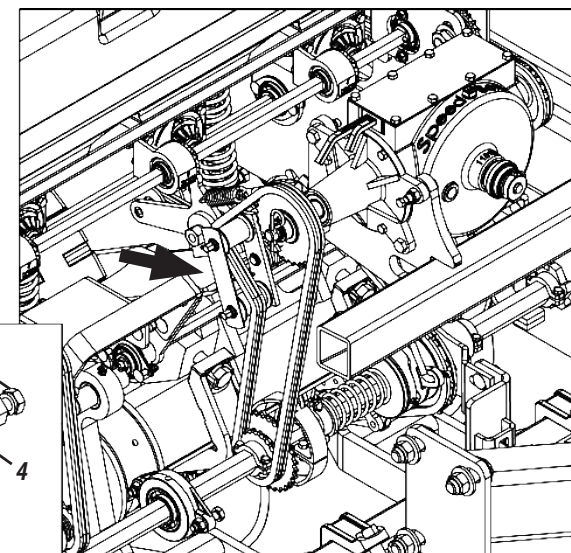

Figure 64
OSCILLATING STRETCHER (FIGURE 64)
The stretcher (1) is equipped with a tightening spring (2) for increased flexibility. If more pressure is necessary in the chain stretcher, loosen its internal nut (3) turn the axle (4) passing the spring coupler (2) to reach another tooth of the rosette of the axle and then retighten the internal nut again (3), **as shown in figure 64.**